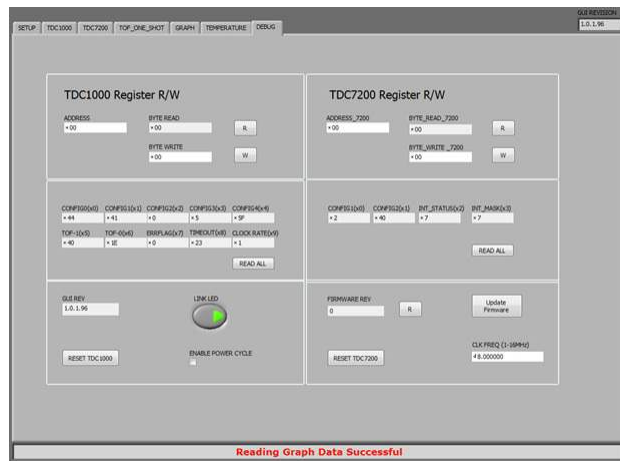

Figure 5-5. EVM GUI – Debug Tab
- (c) If the signal on the oscilloscope is flickering, ensure that the "ENABLE POWER CYCLE" is disabled on the DEBUG tab. Refer to Figure 5-5.